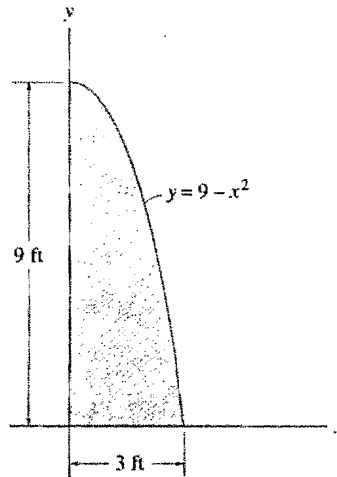

Figure 5-a
- b) The plate has four holes drilled in it, as shown in Figure 5-b. Find the centroidal coordinates of the drilled plate. Organize the solution in a tabular form.